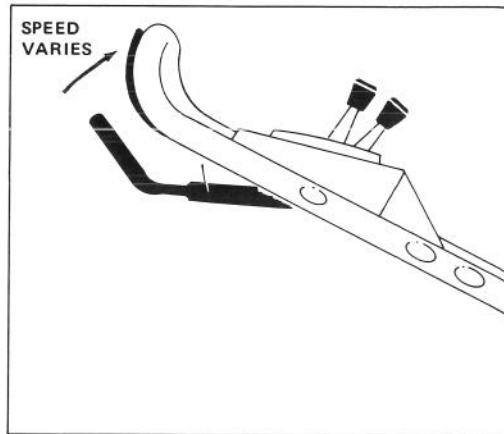

Figure 12
5. **TRACTION OPERATION** (Self-propelled model) — Move ground speed control to desired setting and squeeze control bar against handle to drive. Ground speed varies, depending on space between control bar and handle (Fig. 12).
6. **STOPPING** (Fig. 12) — Release control bar to stop traction drive. Move ground speed control to "N" on self-propelled models. To stop engine, move throttle to OFF. Remove key from switch or pull wire off spark plug if mower is unattended or not used.